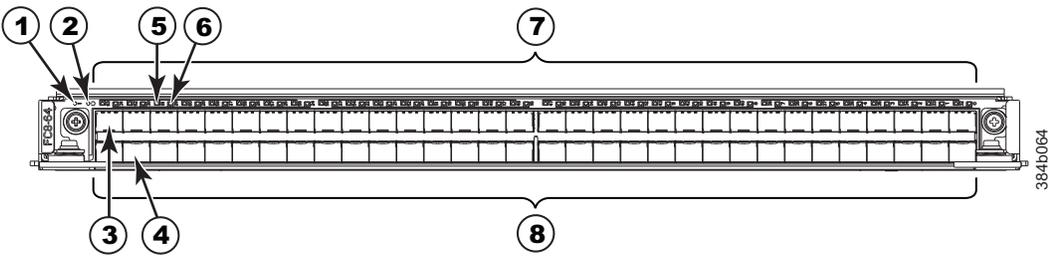

Figure 57. FC8-64 port blade
- Figure 57 on page 146 shows an FC8-64 port blade